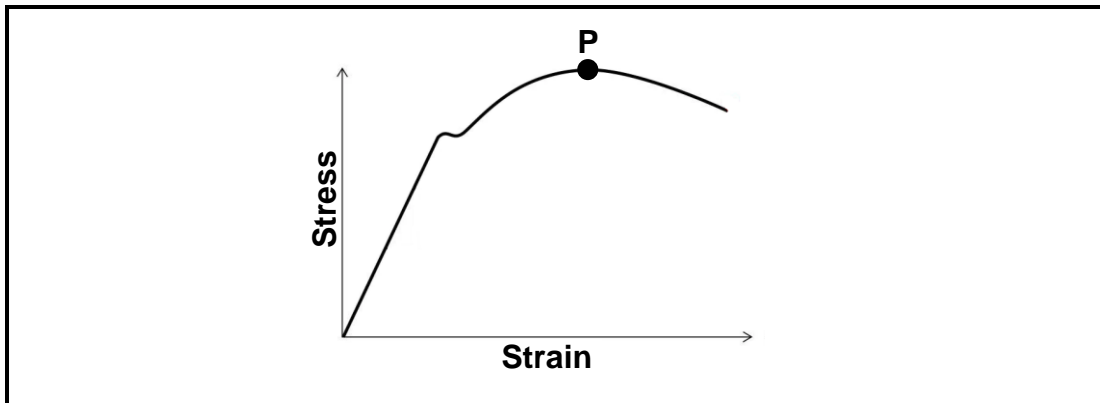

**FIGURE 4.6**
4.6 FIGURE 4.6 below shows a blowtorch. Component X indicated on the diagram is the ...